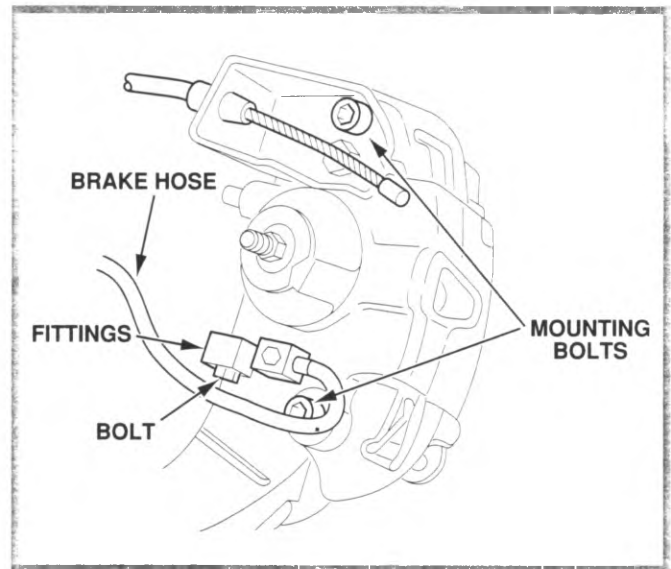

Figure 6-38, Inlet Fitting and Mounting
4. Remove the bolt attaching the caliper inlet fitting (figure 6-38). Discard the copper sealing washers.